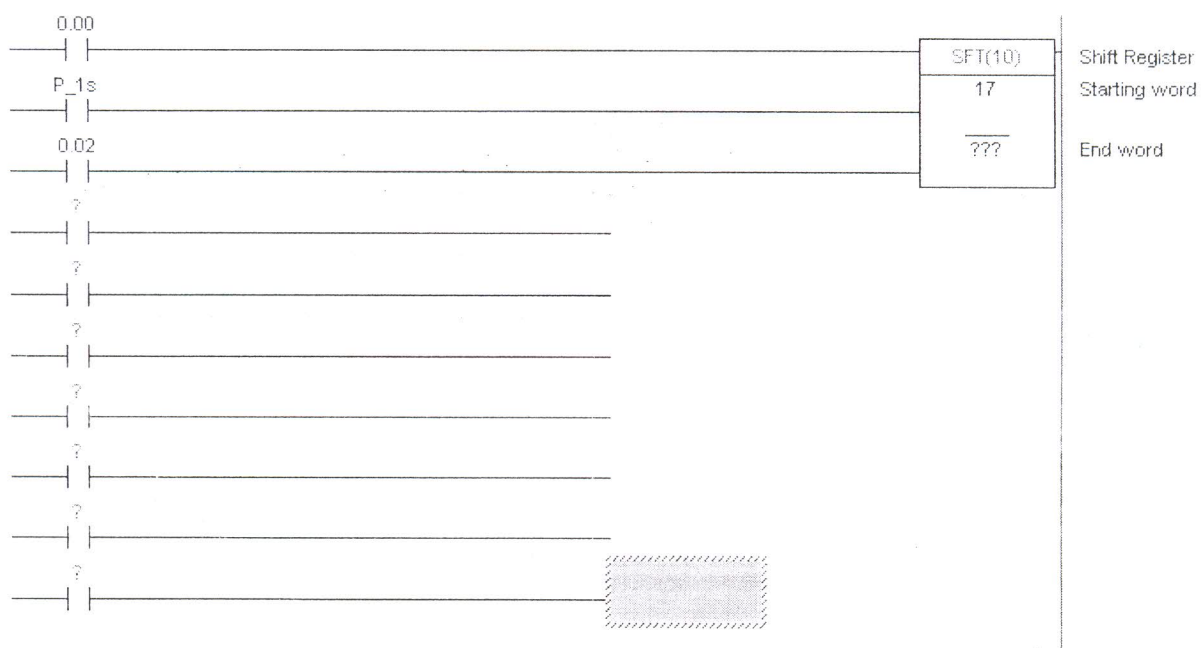
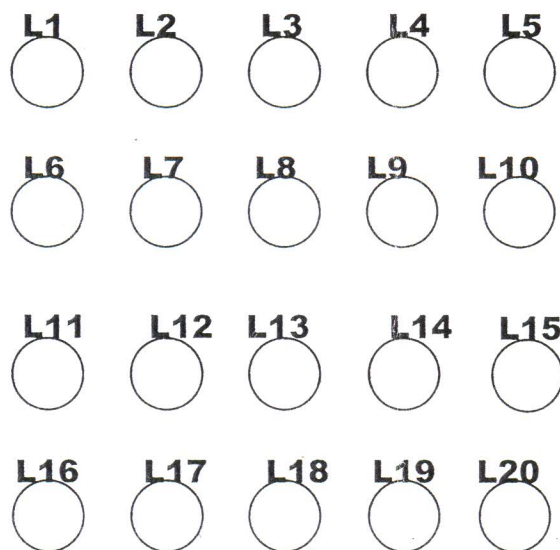

Figure 1: Incomplete Ladder diagram
Figure 2 : Running light Layout (L1 – L20 : lamp)
Answer all the questions below by referring ladder diagram in **Figure 1** and layout in **Figure 2** and below.
- (a) Based on **Figure 1**, define the function of 0.00, 0.02 and P_1s. (3 marks)
- (b) Define the **Ending Word** of this Shift Register by referring the **Figure 1**. (2 marks)
- (c) Complete and redraw the Ladder diagram in **Figure 1** by referring the running light layout shows in **Figure 2**. The sequence of the process is shows in **Tables 1** and the output address is shown in **Table 2**. (10 marks)